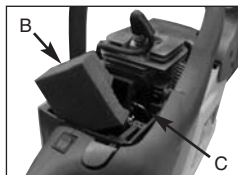

Abb. 18B
2. Lift the air filter (B) out of air-box (C) (Fig. 18b).